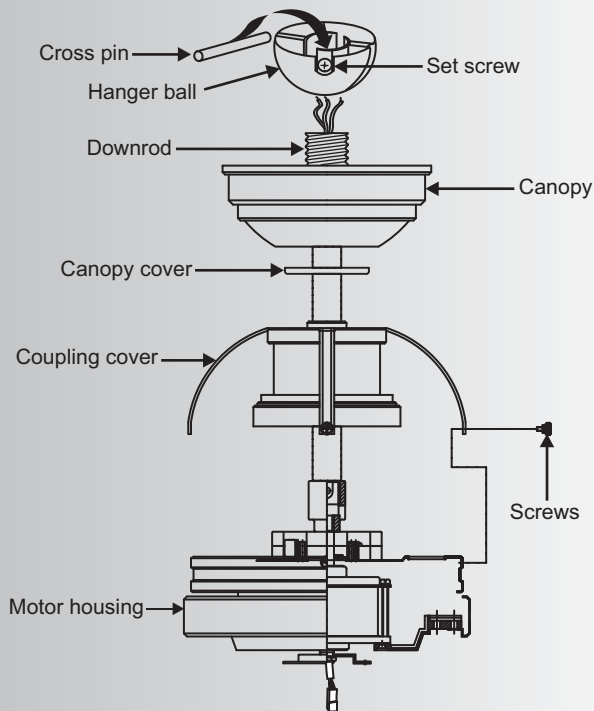

Fig. 10
Step 9. Slip the coupling cover, canopy cover and canopy onto the downrod. Secure the coupling cover to the motor housing using the screws previously removed. (Fig. 10)
Thread the hanger ball onto the downrod, insert the cross pin through the downrod and tighten. Now tighten the set screw. (Fig. 10)